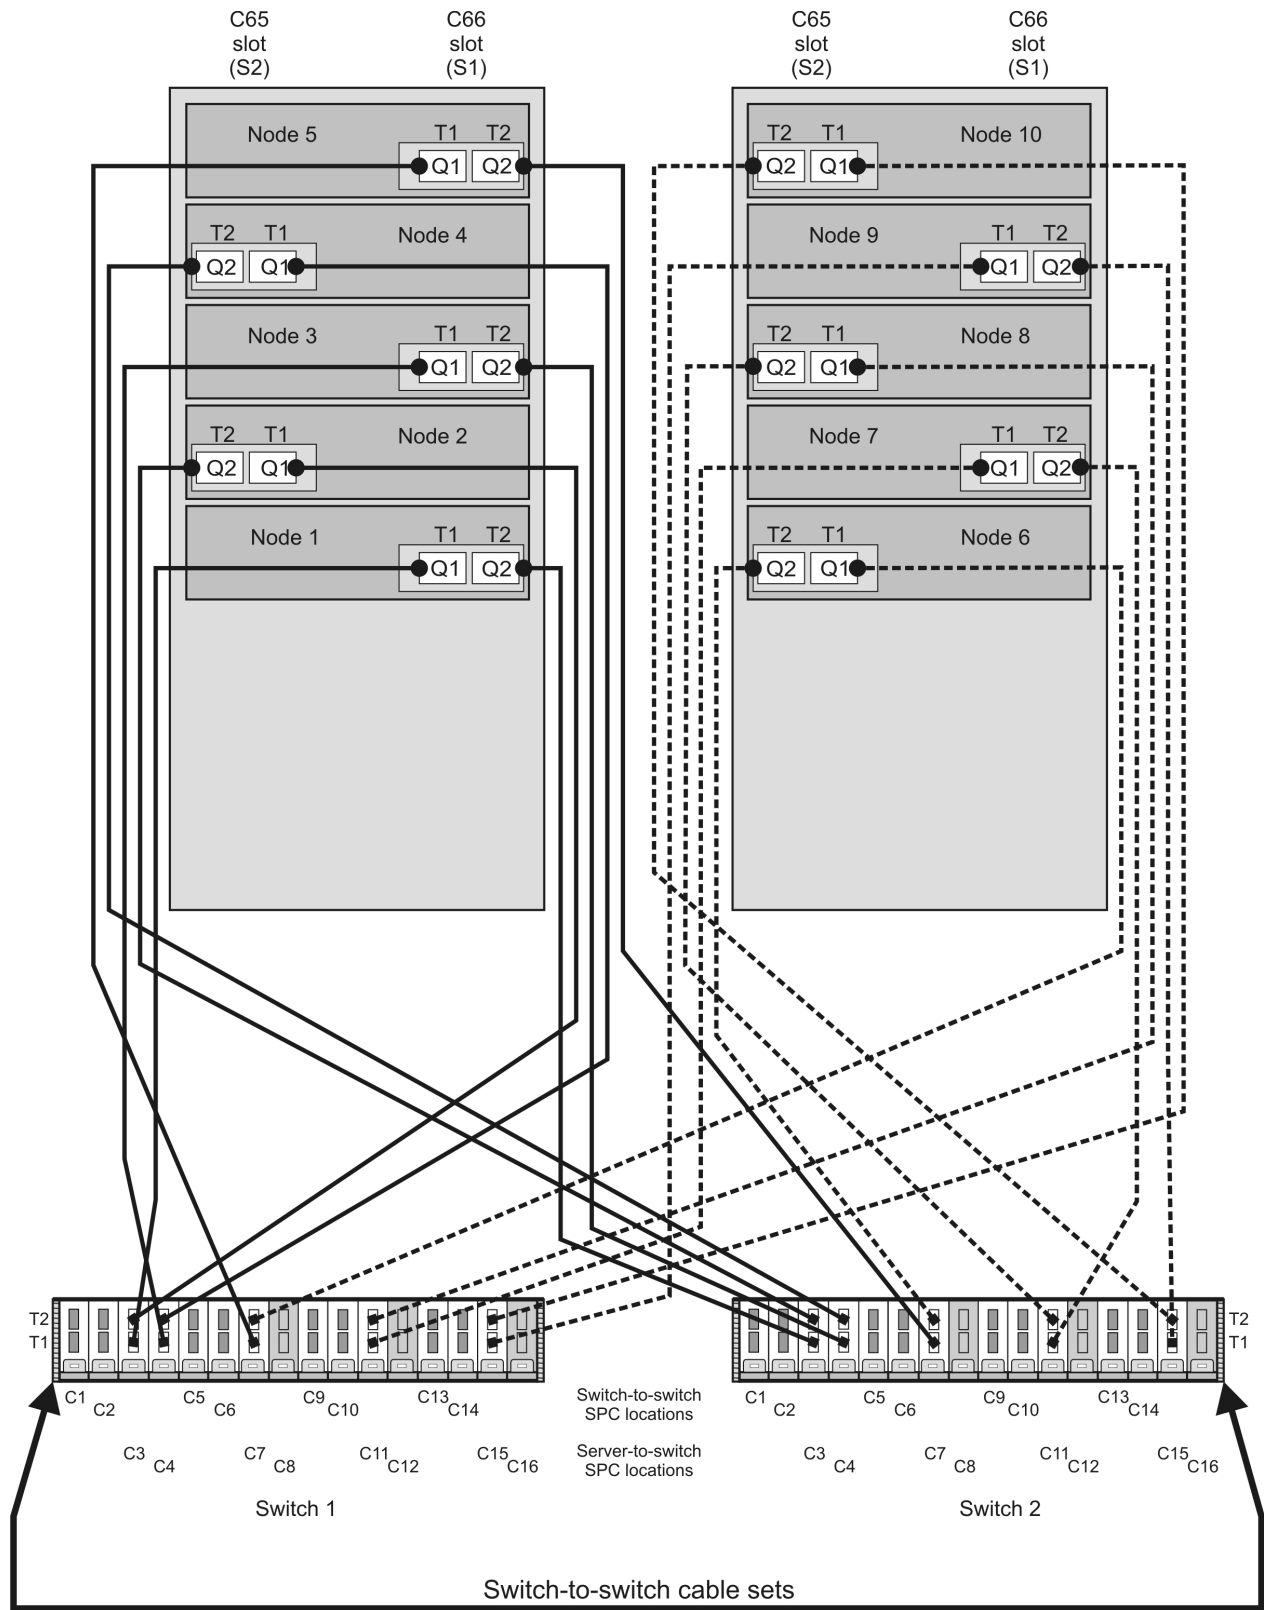
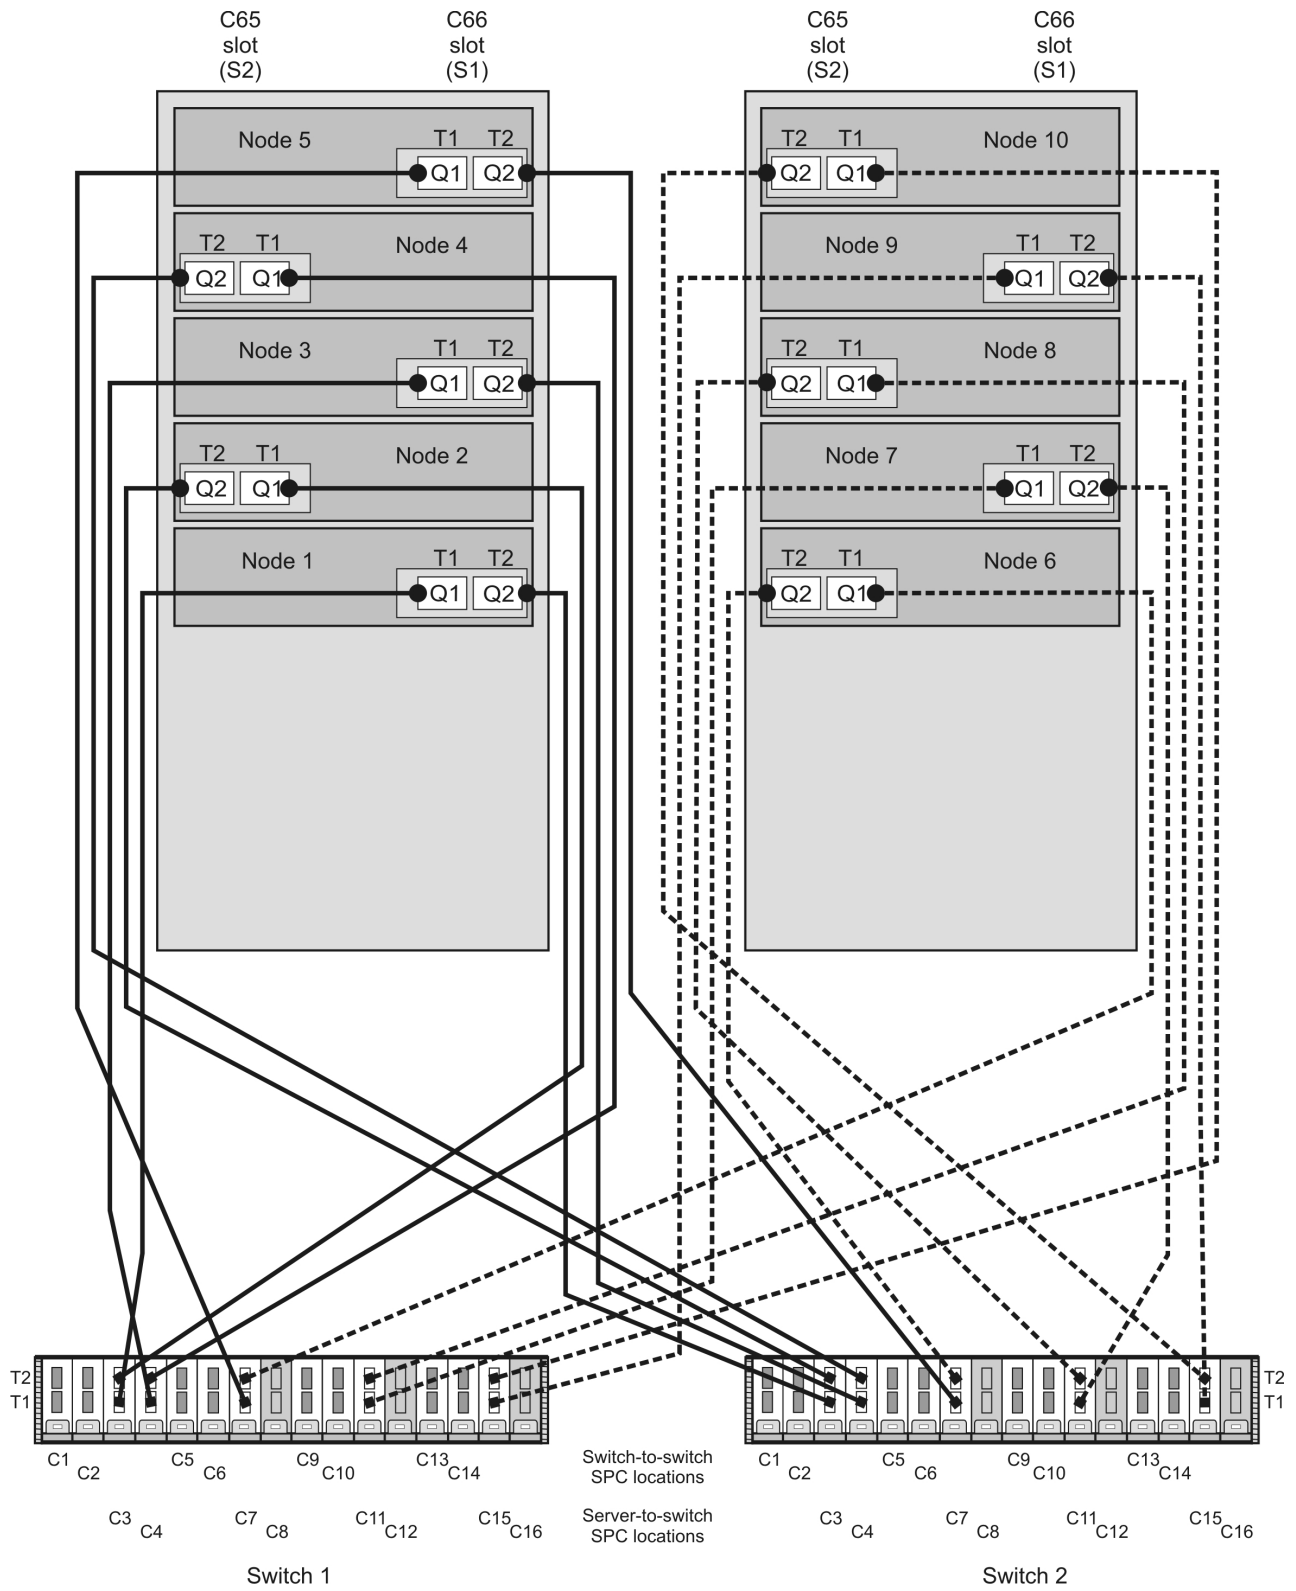

Figure 14. Single network switch configuration with paired NSBs using alternating switch cabling
Figure 15. Dual network switch configuration.
- Refer to Figure 14 on page 45 for an illustration of this cable configuration
Table 13. SNI to switch port locations for Figure 14 on page 45
- Refer to Figure 15 on page 47 for an illustration of this cable configuration
Attention: Compare Figure 15 on page 47 and Figure 14 on page 45 and the associated planning information in Table 14 on page 48 and Table 13. These illustrations and tables show how a single network configured with paired switches can be converted to a dual network configuration by removing switch-to-switch cables.
Table 14. SNI to switch port locations for Figure 15 on page 47